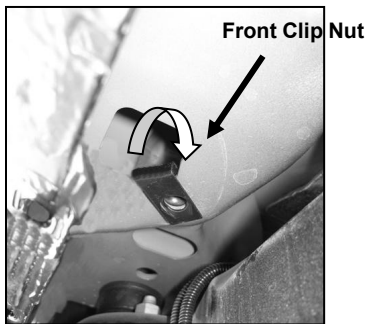

Figure 1
- From underside of vehicle, locate the two front factory holes on the driver side floor panel located by the front tire. With the threaded nut facing up, insert (1) 10mm Clip Nut through larger hole. Orient Clip Nut to engage into the smaller hole (**Figure 1**).